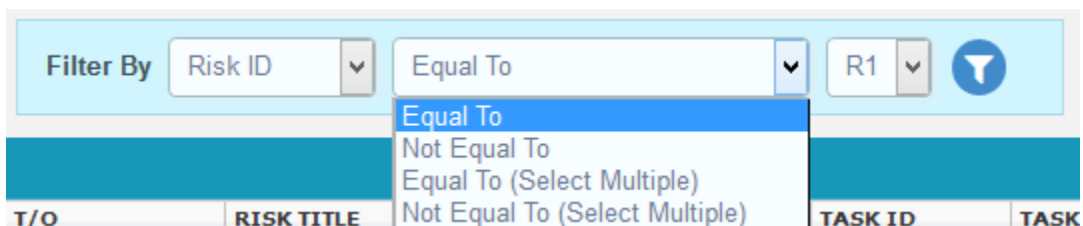
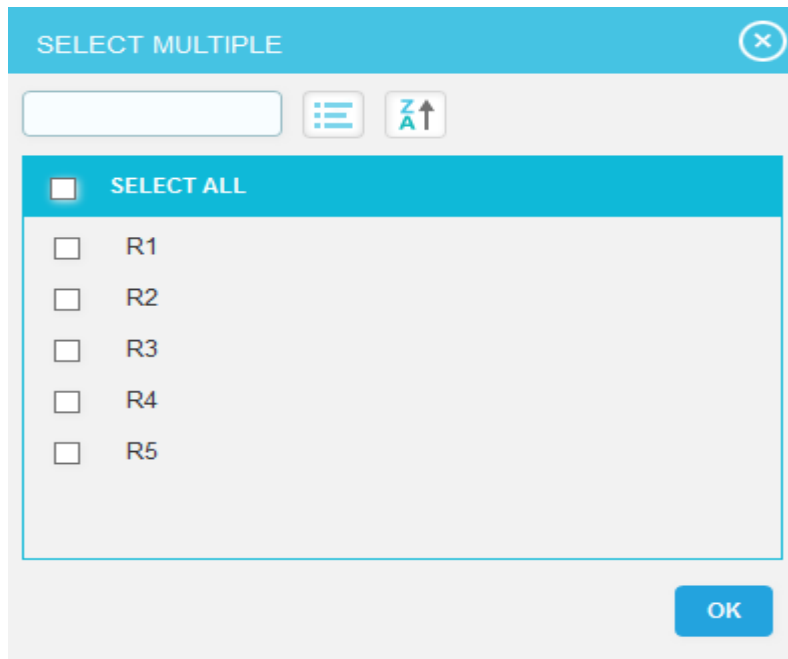

Figure 2.43
Figure 2.44
3. Enter the value in the **textbox** provided or select a value from the **drop down** based on which filtering is to be done. (Figure 2.43) While giving conditions with 'select multiple' option to filter, a pop up appears (Figure 2.44) where the multiple risks can be selected.
4. Click the **filter icon** (Figure 2.43). The filtered data will be displayed.
3. Checkboxes appears on the first column of each mapping which can be ticked for selecting corresponding mappings. (Figure 2.44)